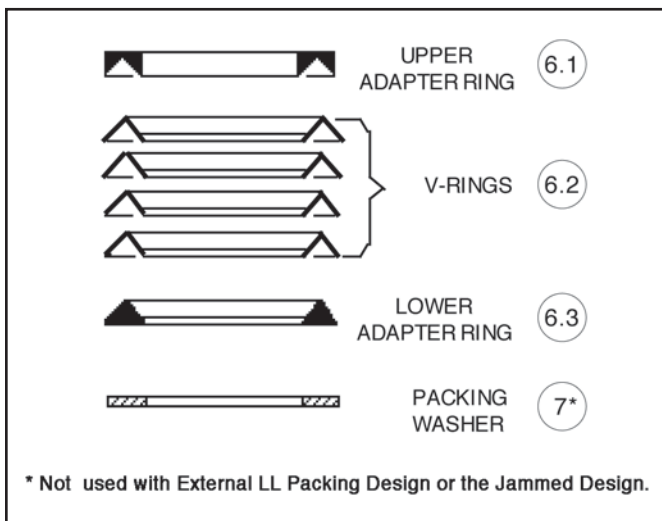
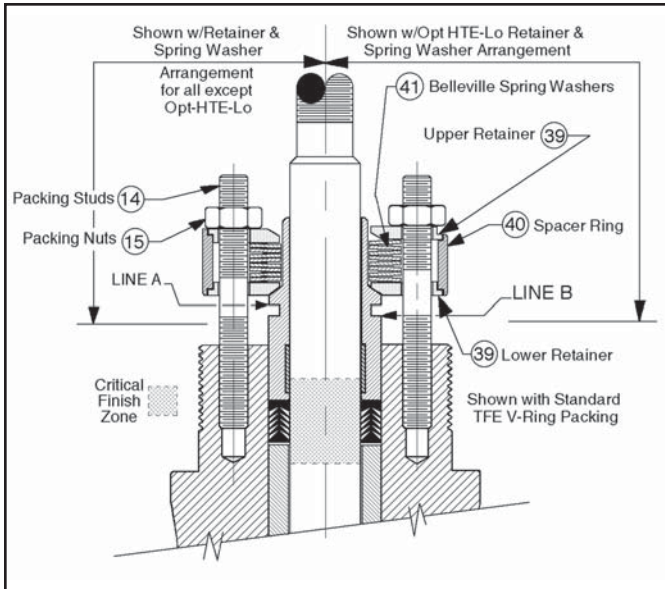
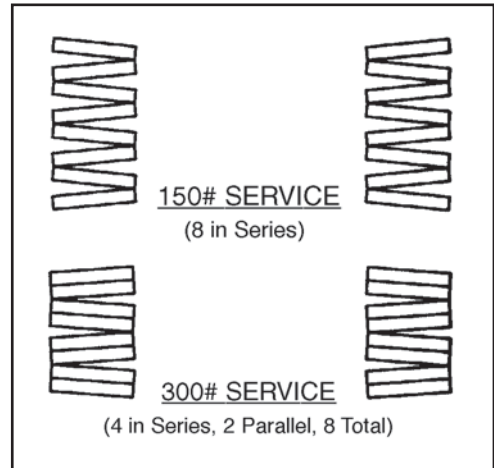

Figure 3: "STD" and "KRI" Packing Orientation
Figure 4: External Live Loaded Packing Orientation
Figure 5: Belleville Spring Washers Orientation
31. Place packing washer (7) over end of plug/stem (3) and carefully lower into stuffing box. See Figure 3 for proper packing orientation.
32. Carefully place lower adapter (6.3) of packing ring set (6) over plug/stem's (3) end, properly oriented. Using the packing follower (5), push the lower adapter into the bonnet's (2) stuffing box.
33. Carefully place a packing ring (6.2) properly oriented over the plug/stem's (3) end and push into the stuffing box similar to the adapter (6.3). Repeat for each of the four rings (6.2).
34. Place upper adapter (6.1) over the stem (3)
35. Place packing follower (5) with new wiper ring (22) and new follower bushing (26) tape over the end of the plug/stem (3).
36. Place packing flange (4) over end of plug/stem (3) and over packing studs (14).
42. Reinstall the (AA) as recorded in Sub-Section V.C.
43. Position suitable end closures – plugs, blind flanges, etc., – and leak test with 100 psig air pressure minimum. No packing (6) adjustment should be required to get a tight seal.
1. Remove (AA) as described in Sub-Section V.B. Leave (BA) in vise with plug/stem (3) upwards.
3. Loosen both packing stud nuts (15) until clearance exists between the bottom of the nuts (15) and the upper retainers (39). See Figure 4.
4. Spacer rings (40) should "spin freely". If stacked mechanism (39,40,41) is not "loose" due to corrosion, debris, packed dirt, etc., tap the spacer rings lightly with a hammer while attempting to pry up the spacer ring /lower retainer with a flat tool. **DO NOT REMOVE PACKING NUTS (15).**
5. Continue to loosen packing stud nuts (15) to just short of disengagement from packing studs (14). **DO NOT REMOVE PACKING NUTS.**
23. Remove body (1) from vise. Solvent clean all loose parts with suitable solvent. Determine parts to be replaced due to wear and/or corrosion. Clean seat ring (11), cage (10), and seat retainer (23).
24. Place body (1) into vise with body/bonnet flange up. Install a new seat ring gasket (13) inside body
25. Note correct orientation of seat ring (11) and place inside the body (1).
26. For a composition/soft seat design, position a new soft seat inset (24) and the seat retainer (23) into position on top of seat ring (11).
27. Place a new bonnet gasket (12) on the body's (1) bonnet flange face.
28. With cage (10) oriented correctly on the stem assembly (3), set plug head down into the seat ring (11). Keep firm hold of stem with one hand; use other hand to push cage down into proper alignment.
29. Lift bonnet (2) over threaded end of plug/stem (3) and carefully lower bonnet down over stem, ensuring that the critical finish zone of the bonnet's stuffing box is not scratched by the stem's threads. Align body (1) to-bonnet (2) flanges to matchmarks as bonnet comes down over bonnet studs (16). Carefully release stem (3) only when bonnet is completely resting on the body.
30. Install bonnet nuts (17) onto bonnet studs (16) and finger-tighten.
31. Place packing spacer (9) over end of plug/stem (3) and carefully lower into stuffing box.
- 32A. For Opt-EXT and Opt-KRE Packing option – (Reference Figure 3 for proper packing orientation) –
- a. Carefully place lower adapter (6.3) of the new packing ring set (6) over plug/stem's (3) end, properly oriented. Using the packing follower (5), push the lower adapter into bonnet's (2) stuffing box.
- c. Carefully place upper adapter (6.1) similar to lower adapter (6.3). Leave packing follower (5) in position, properly oriented.
- d. Place lower retainers (39) over each packing stud (14). See Fig. 4 for proper orientation.
- e. Orient spring washers (41) stacks per Figure 5. Lower spring washer stacks over studs and down onto the lower retainers (39).
- f. Place spacer rings (40) over studs and onto ledge of lower retainers (39).
- g. Place upper retainers (39) over the packing studs (14), and onto the ledge of the spacer rings (40). Ensure the upper retainers (39) are properly positioned around its circumference.
- h. Install packing stud nuts (15), finger-tight, on top of the upper retainers (39). (See Fig. 4.)
- i. Ensure that nuts (15) are drawn down evenly such that the upper retainers (39) are level. Wrench tighten packing nuts in 1/2 revolution increments. Continue to tighten nuts until the spacer rings (40) can no longer be manually rotated by use of fingers; add 1/2 revolution of additional draw-down to each nut to properly load the packing (6).